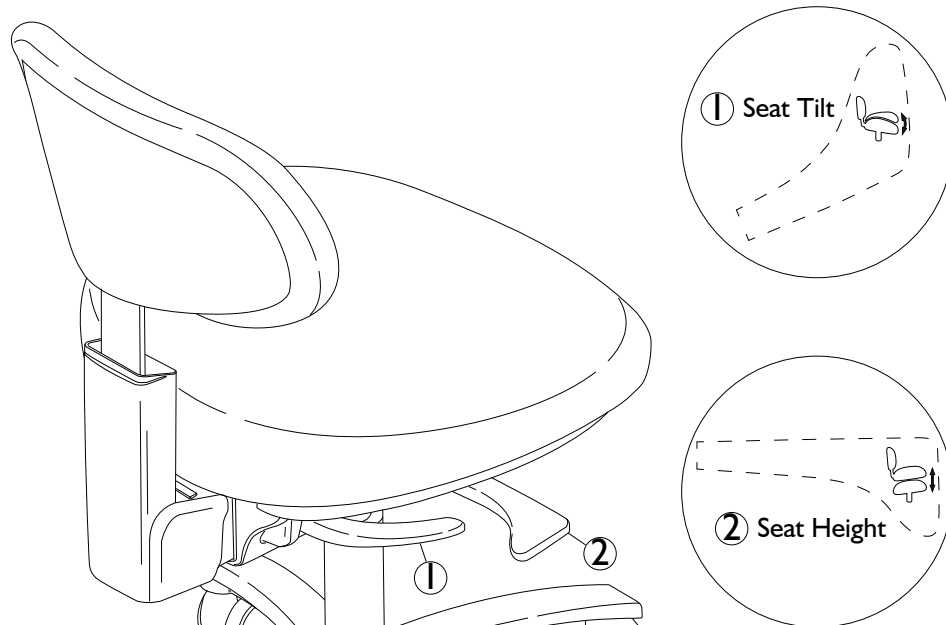

Figure 4: Adjusting Seat Tilt and Height - Clinician's Stool
1. Push Lever down and release (Figure 4, item 1) and adjust seat tilt until the desired position is reached.
To adjust seat height, pull Lever up (Figure 4, item 2) and release it when the desired height is reached.